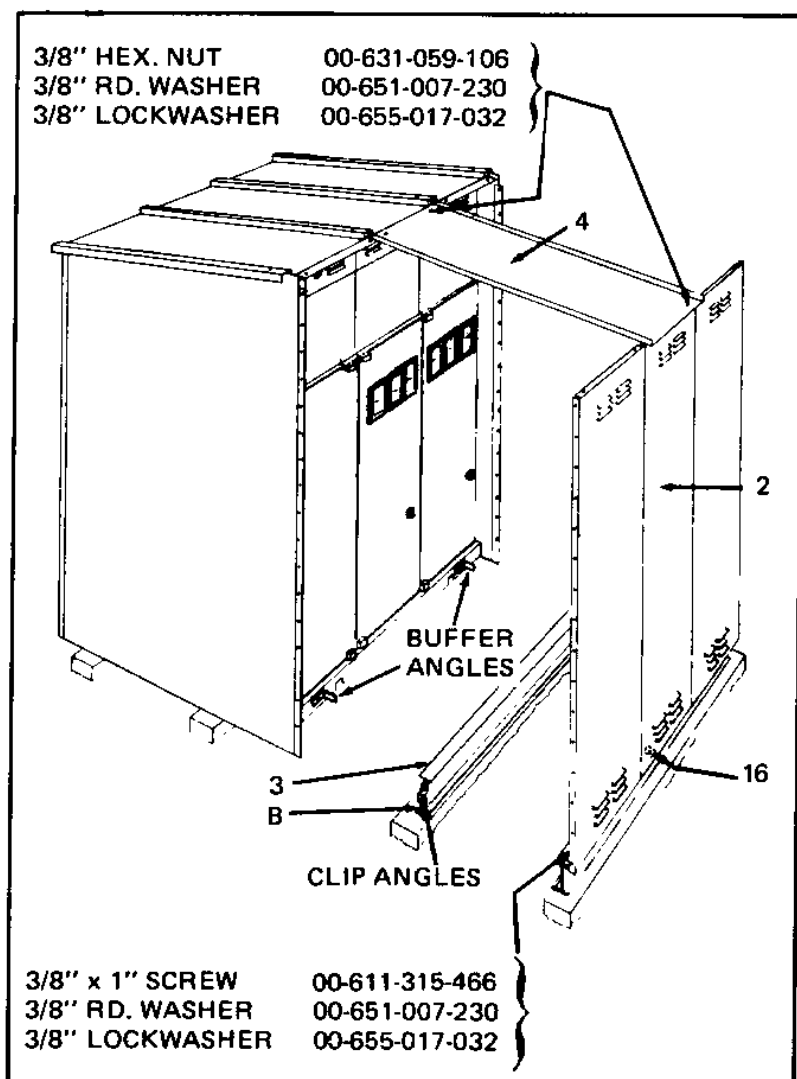
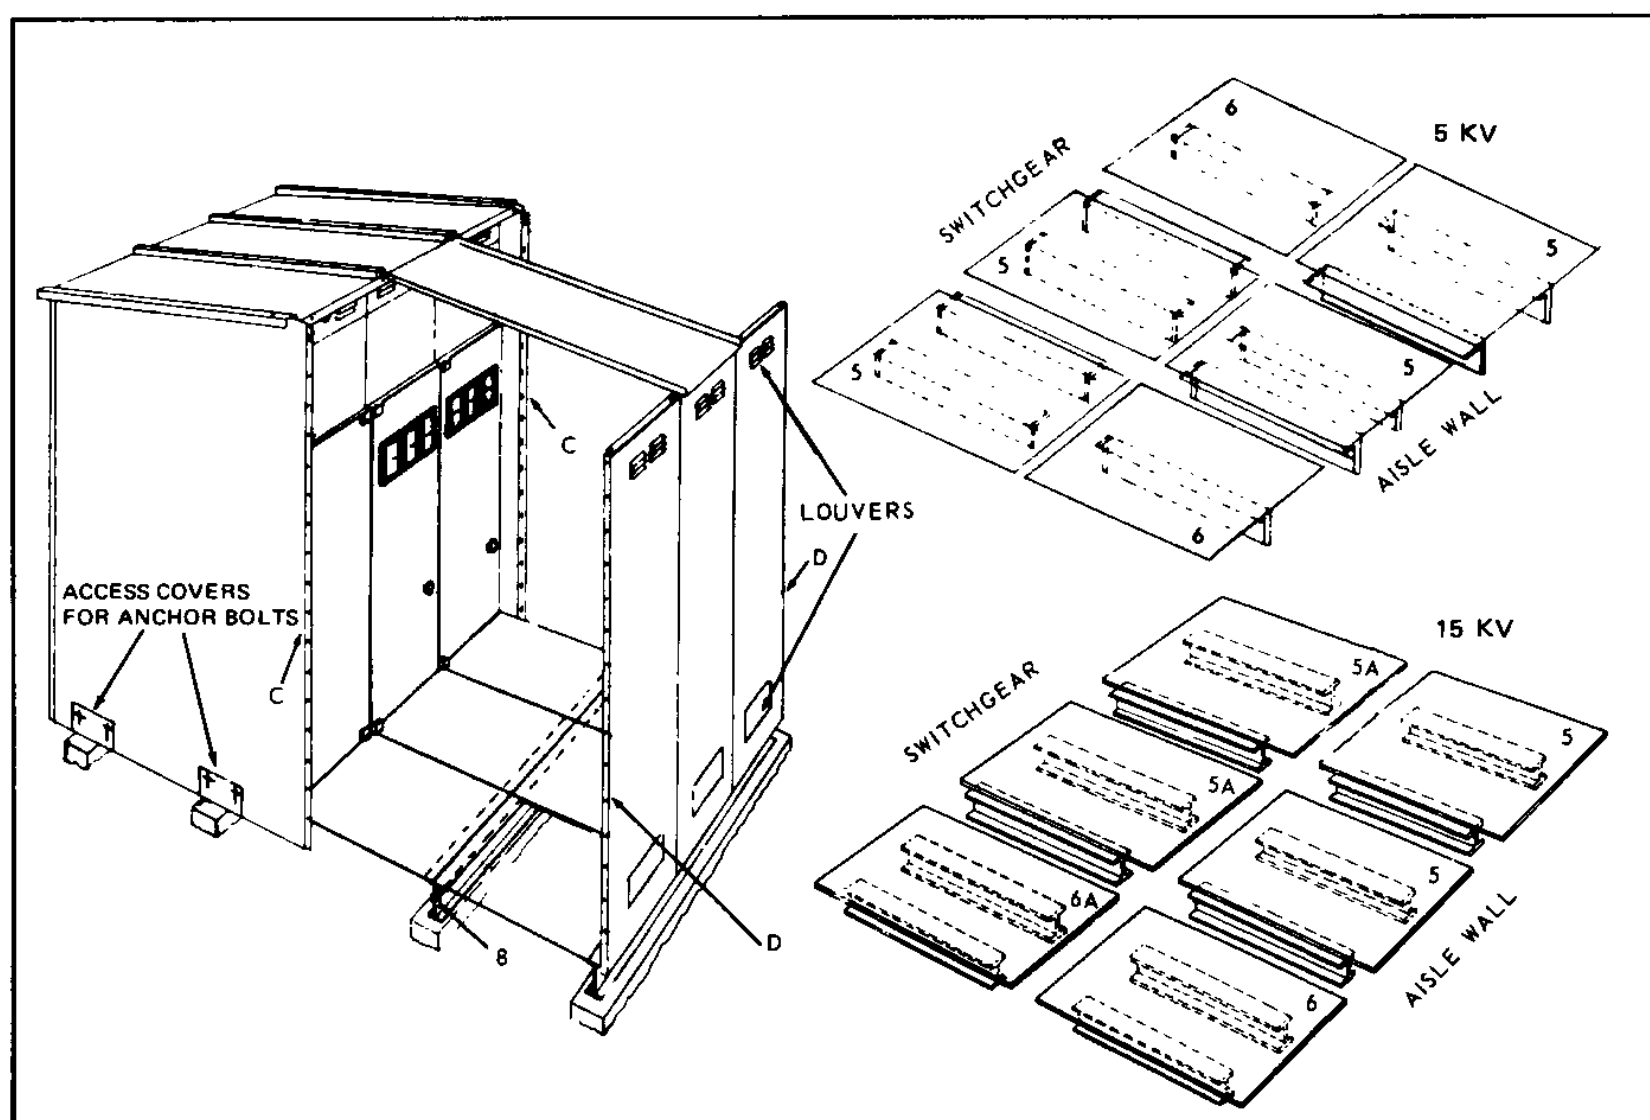

Figure 25. Aisle Wall Assembly – Single Aisle Layout
Figure 26. Floor Plate Installation – Single Aisle Layout
1. Temporarily support the aisle wall assembly (removed for the plumb bob check) in its permanent position as shown in the general arrangement drawing (see Figure 25). Remove the aisle beam (3) from top of the wall assembly (2) and place the beam, with clip angles near the top, in position B.
2. Put roof covers (4) in place to hold top of aisle wall in place. Do not tighten hardware. Remove and discard the buffer angles at the bottom of the unit. These angles are installed to prevent bending of the aisle wall during shipping. If not removed, they may interfere with installation of floor plates.
3. Align the ends of the aisle wall, aisle beam and switchgear. Place two sets of floor plates in position between the switchgear and the wall. Install each set next to the end position between the switchgear and the wall. (See Figure 26 for location of floor plates.) With floor plates set tightly against switchgear floor plates, check and adjust center beam and aisle wall beam location to provide a good fit with minimum size cracks between plates and a smooth surface. Check that aisle wall is square with switchgear by diagonal measurements at floor level — corner to corner distances
5. Install all floor plates using 5 kv or 15 kv pattern as shown in Figure 26. Each plate overlaps the supporting member of the next plate; therefore, determine sequence of installation accordingly. Place each set of floor plates to equalize the space between floor plates and prevent a wide crack at end of group.